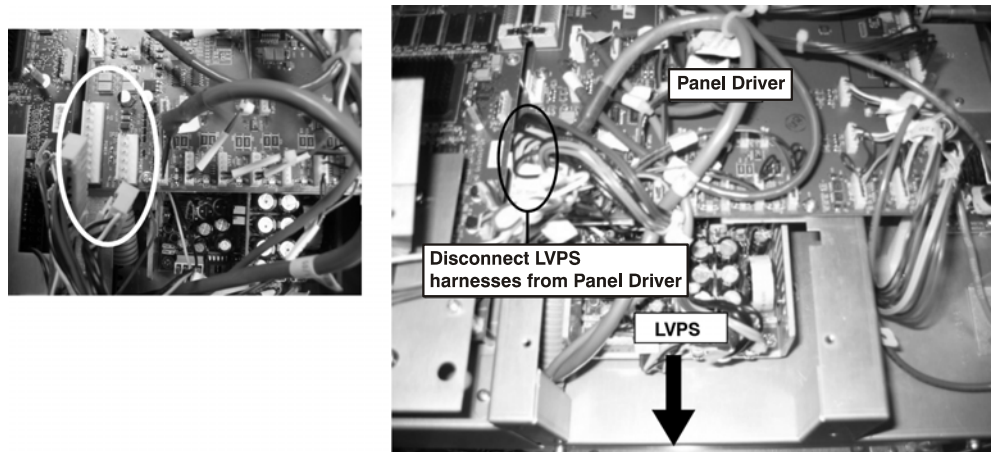

Figure 60. Disconnect LVPS Cables
6. Carefully, slide out the LVPS just enough to access the harness connection at the back. Disconnect the AC cable connection. (Figure 60.)